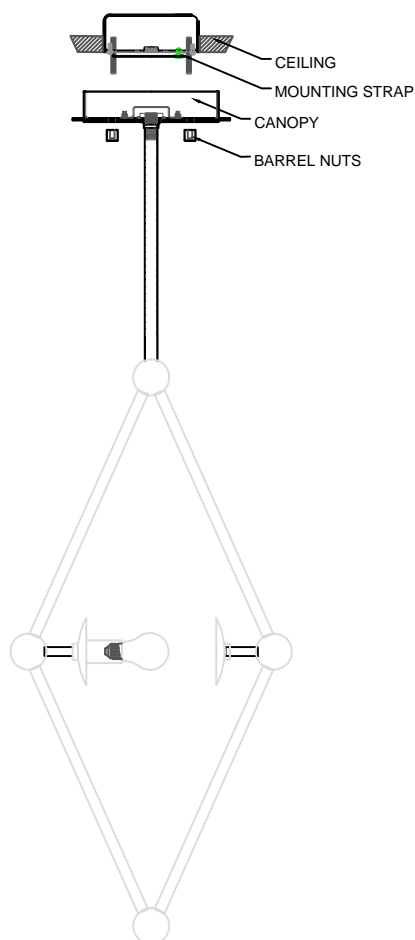

FIGURE-03
7. Using the ball nuts, loosely fasten the fixture to the heavy duty strap. Rotate and align the canopy as necessary. Tighten the barrel nuts. (See Figure-03)